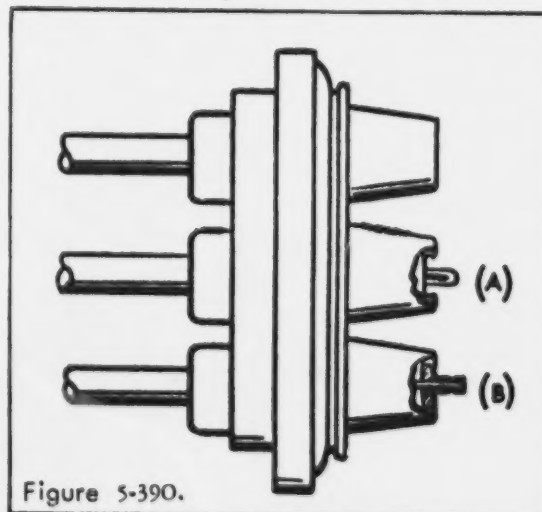

Figure 5-39O.
(9) Cut wire 3/8 inch from top of grommet outlet. Double wire over as shown in figure 5-39O(A). Slide eyelet over doubled wire until it is firmly seated in recess of grommet outlet.
(10) Using the "AB" groove of 11-4152 crimping tool, crimp eyelet to wire. Approximately 1/32" of wire should extend from end of eyelet after crimping. See figure 5-39O(B).